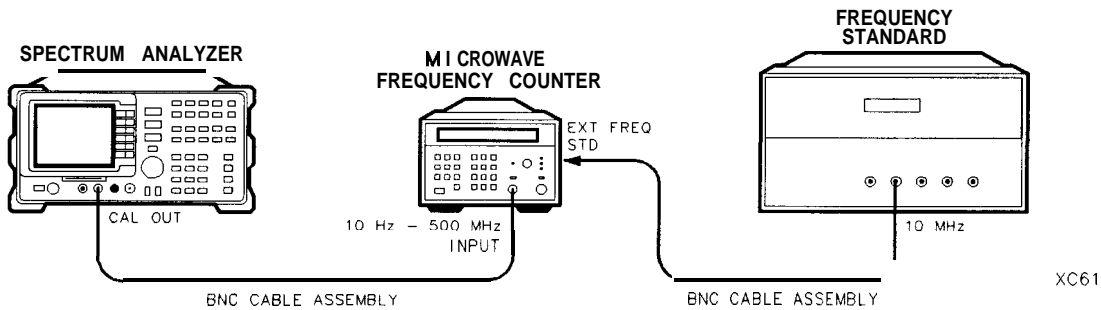

Figure 1-28. 10 MHz Reference Test Setup
1. Connect the equipment as shown in Figure 1-28.